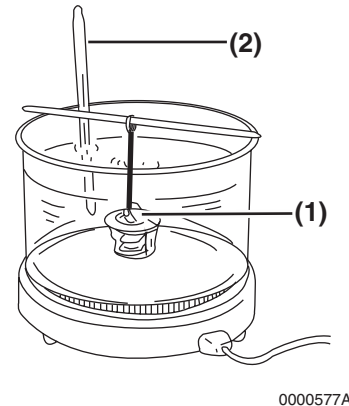

Figure 8-13
1. Check for proper operation of the thermostat. Place the thermostat (**Figure 8-13, (1)**) and an accurate thermometer (**Figure 8-13, (2)**) in warm water.